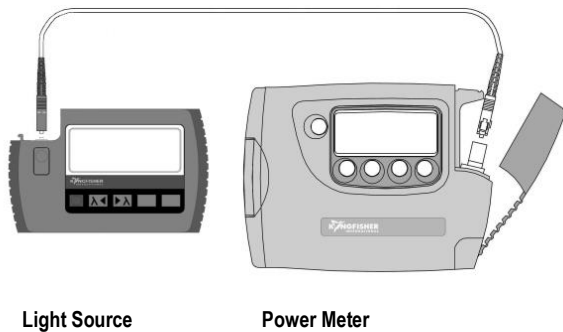

Figure 3. Test set-up for 9800 Light Source Output Power (CW) Test
1. Connect the equipment as shown in Figure 3.